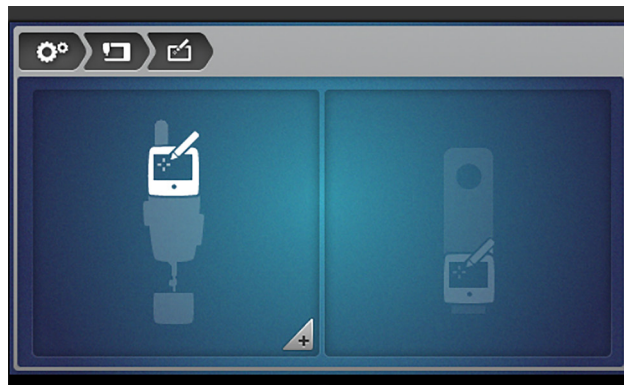

Fig. 12
3. For Sewheads that have only a front screen, the front screen option is the only one available for calibration. For Sewheads that have a rear screen connected, select the screen you wish to calibrate (Fig. 12).